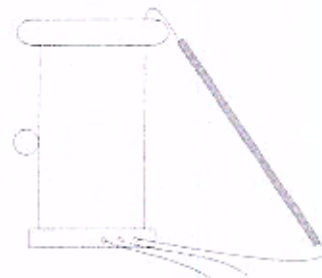

Figure 5 High Voltage Voltmeter Probe Hookup
1. Remove the high voltage voltmeter probe from its vertical rack. Hook the probe over the brushed aluminum toroid on top of the high voltage module (for 100 kV output) or over the 50 kV tap on the side of the module (for 50 kV output) and allow it to hang to the ground (see Figure 5). *Note: The 50 kV tap is used only when performing bucket liner tests in water.*